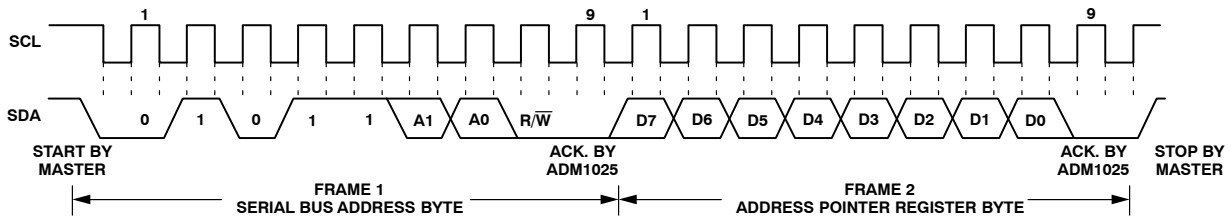
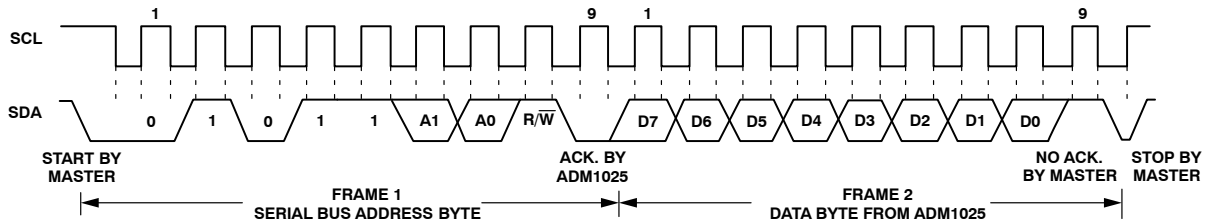

Figure 11. Writing to the Address Pointer Register Only
Figure 12. Reading Data from a Previously Selected Register
1. If the ADM1025/ADM1025A's Address Pointer Register value is unknown or not the desired value, it is first necessary to set it to the correct value before data can be read from the desired data register. This is done by performing a write to the ADM1025/ADM1025A as before, but only the data byte containing the register address is sent, since data should not be written to the register. This is shown in Figure 11. A read operation is then performed consisting of the serial bus address, R/W bit set to 1, followed by the data byte read from the data register. This is shown in Figure 12.
2. If the Address Pointer Register is known to be already at the desired address, data can be read from the corresponding data register without first writing to the Address Pointer Register, so Figure 11 can be omitted.
2. In Figure 10 to Figure 12, the serial bus address is shown as the default value 01011(A1)(A0), where A1 and A0 are set by the three-state ADD pin.